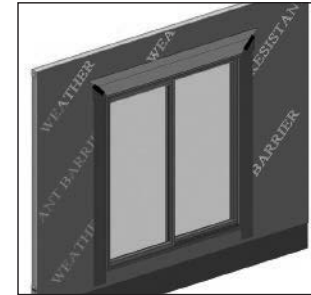

FIG. 26
- Cut and apply head flashing. The head flashing should be on top of the drip cap flashing. The head flashing should run slightly past the edge of the side flashing. (Fig. 26)